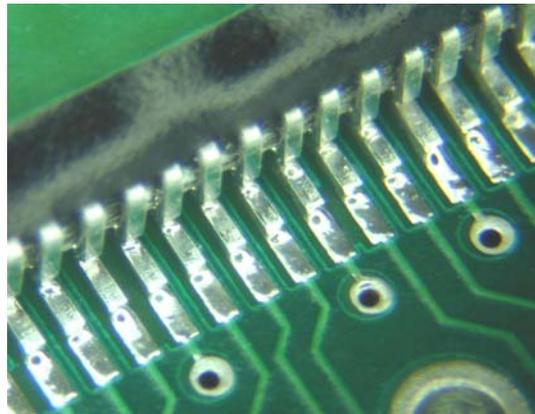

Figure 5: Solder Connections
7. Clean the foot thoroughly using an aqueous cleaning system and inspect for proper solder connections as shown in Figure 5.